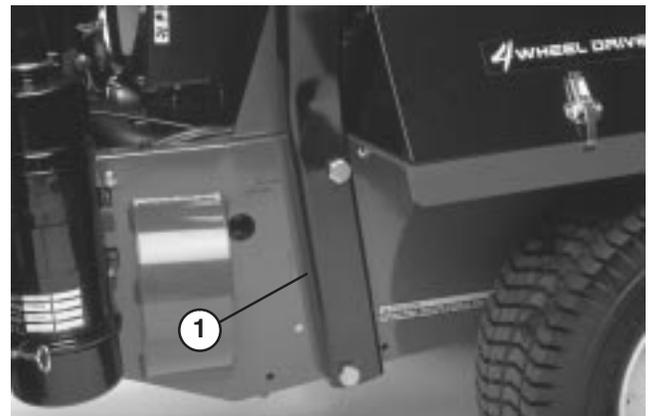

Figure 14
1. Lower roll bar onto frame, aligning mounting holes as shown in Fig. 14.
2. Secure roll bar to frame with (4) 3/4 x 3-1/2" lg. bolts, lockwashers, and nuts (Fig. 14). Tighten securely.